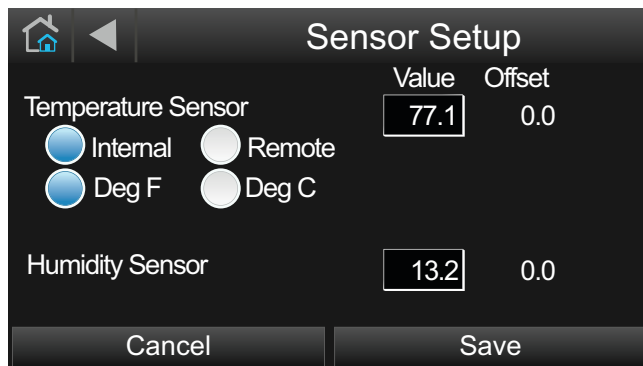

Fig. 10 — Sensor Setup Menu Screen
3. Select “Internal” and “Deg F” as shown in Fig. 10.